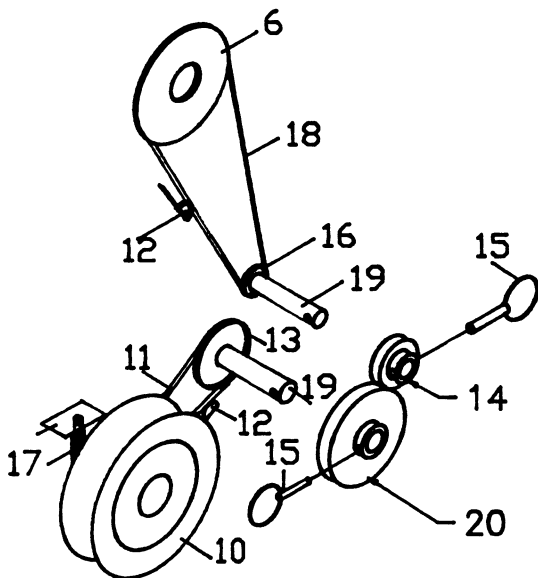

FIG.2.
4.0 THE DRIVE OF THE SOWING SHAFT fig. 2